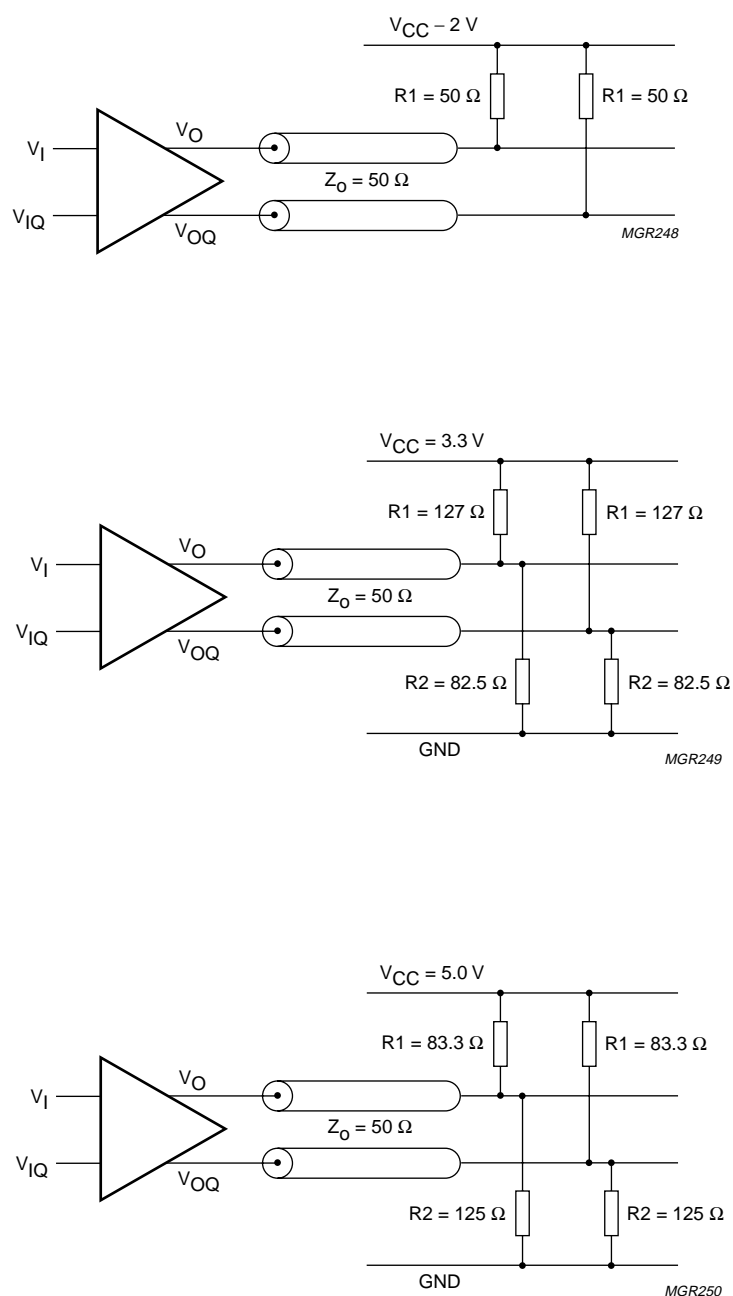

Fig.9 PECL output termination schemes.
Some PECL termination schemes are given in Fig.9.
8. R_L = 50 Ω connected to a level of V_{CC} – 2 V (see Fig.9).